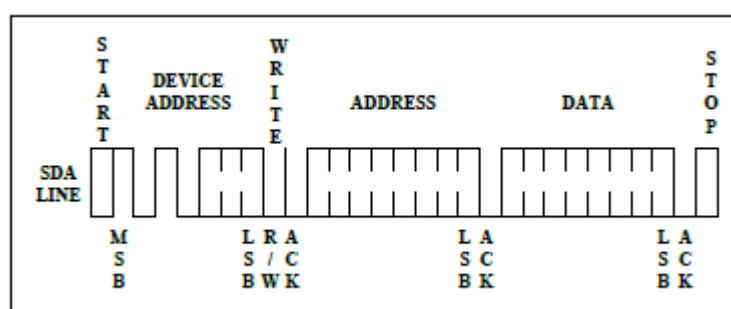

Figure4 Byte Write
**BYTE WRITE:** A write operation requires one 8-bit data word address following the device address word and acknowledgment. Upon receipt of this address, the BM24C64B will again respond with a "0" and then clock in the first 8-bit data word. Following receipt of the 8-bit data word, the BM24C64B will output a "0" and the addressing device, such as a microcontroller, must terminate the write sequence with a stop condition. At this time the EEPROM enters an internally timed write cycle, to the nonvolatile memory. All inputs are disabled during this write cycle and the EEPROM will not respond until the write is complete (see Figure 4).